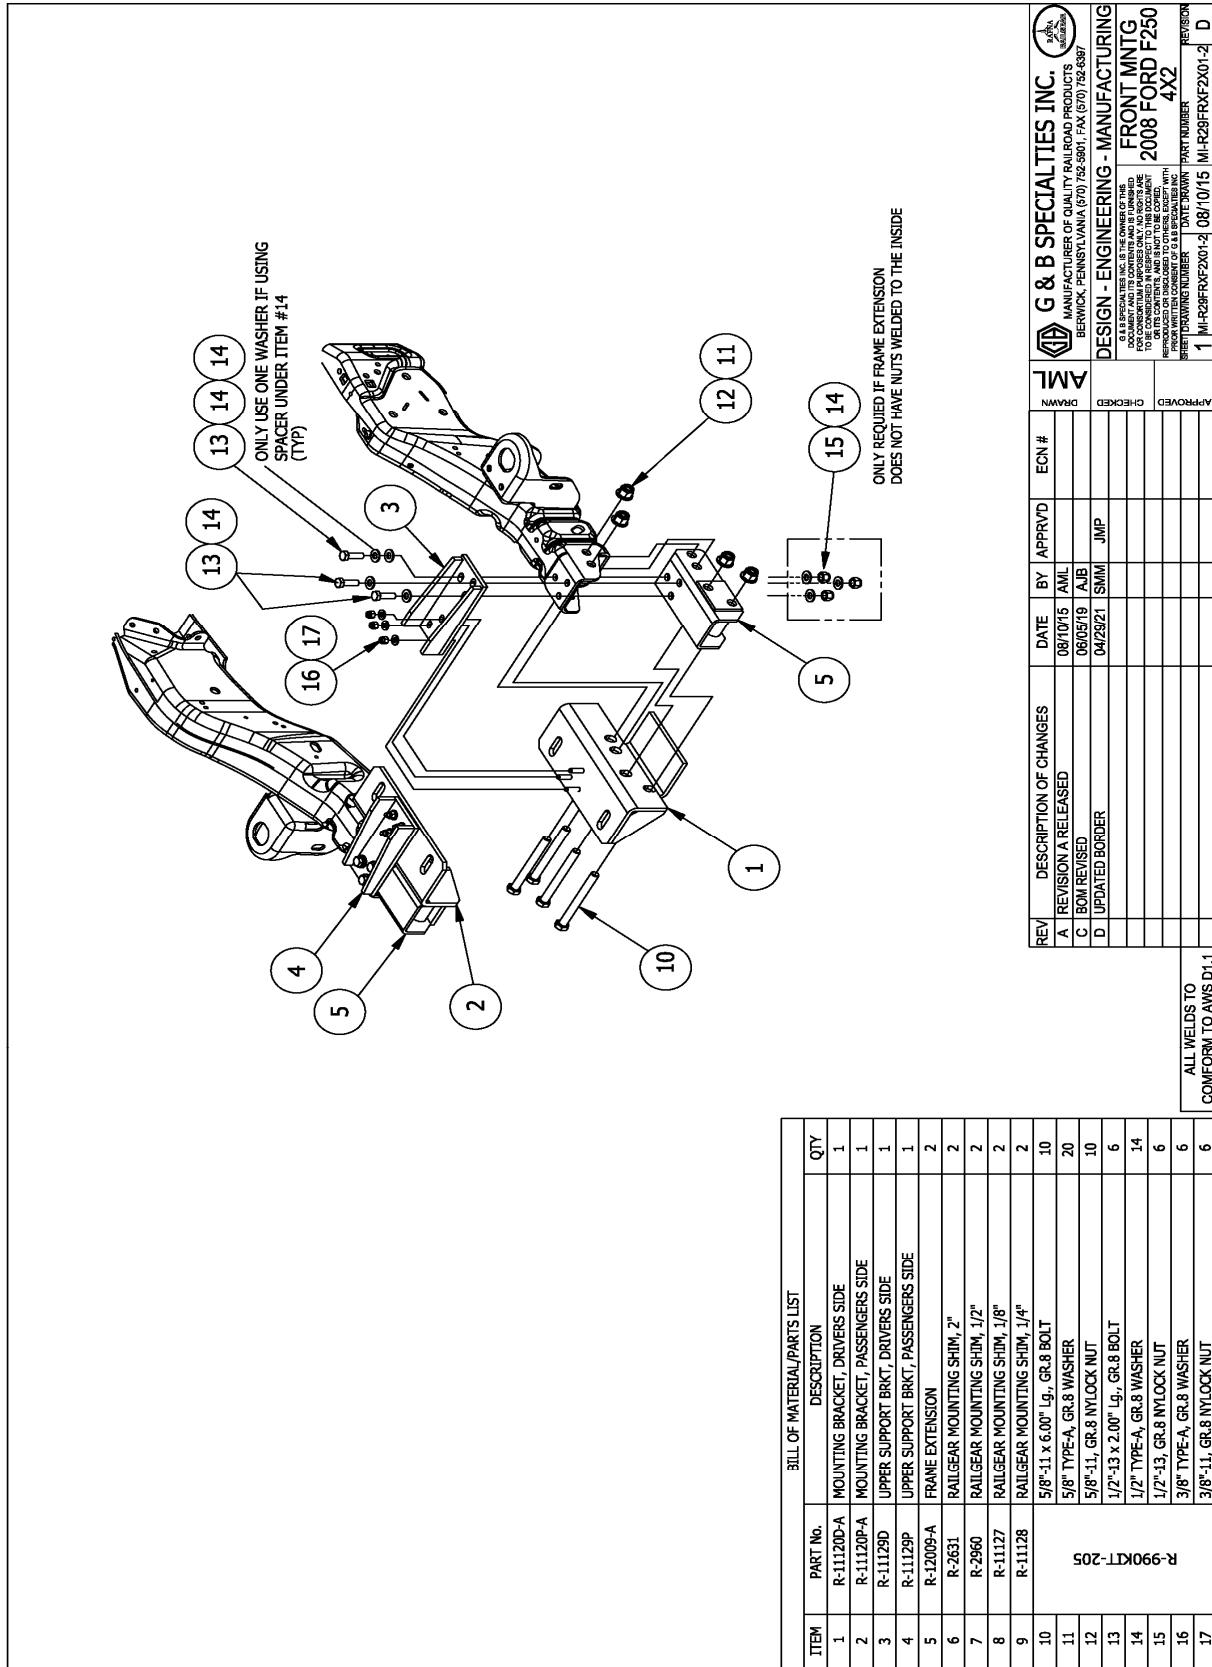

Figure 2
Bracket Assembly - Drivers Side (Figure 2)
4. If spacers are required under the upper support only one flat washer will be required for the rear most 1/2" bolt as noted in Figure 2.